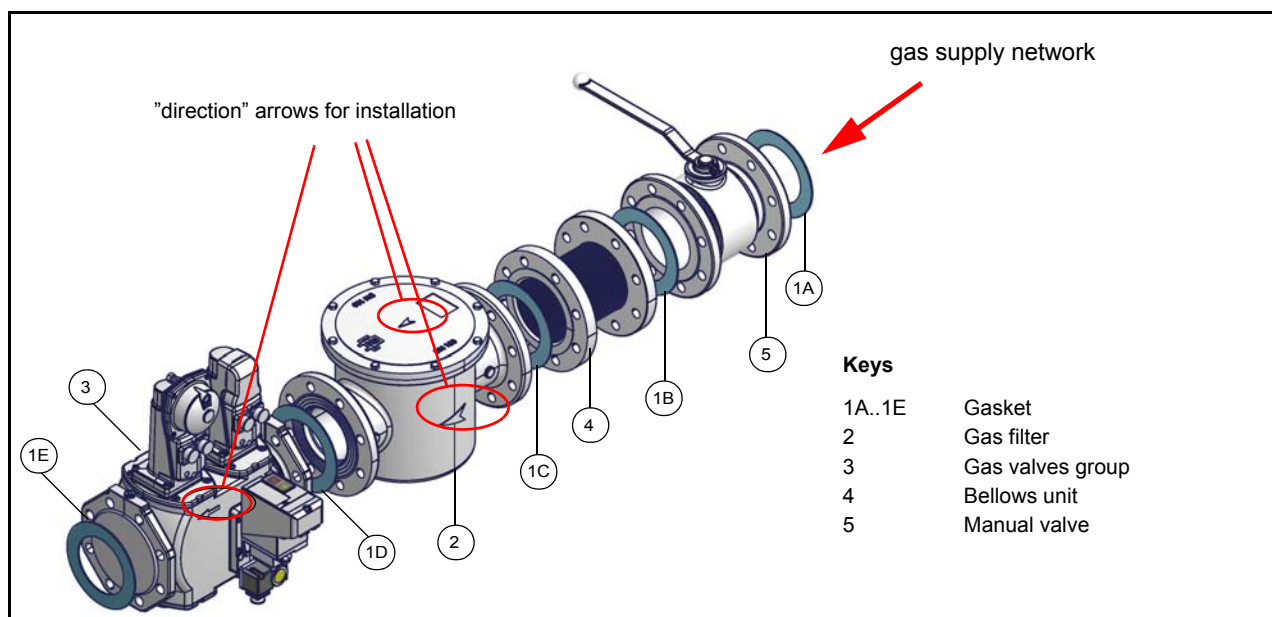

Fig. 5 - Example of gas train
- 1-b) in case of flanged joints: place a gasket (no. 1A..1E - Fig. 5) between the elements
ATTENTION: once the gas train is mounted according to the diagram on Fig. 5, the gas proving test must be performed, according to the procedure set by the laws in force.